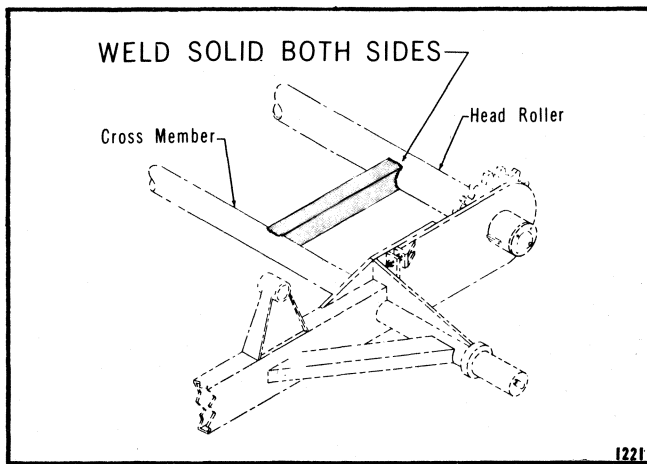

Fig. 3—Supporting Head Roller
4. Support head roller using method similar to that illustrated in Fig. 3. Spot weld sprocket to head roller in 4 places equally spaced around the flange.